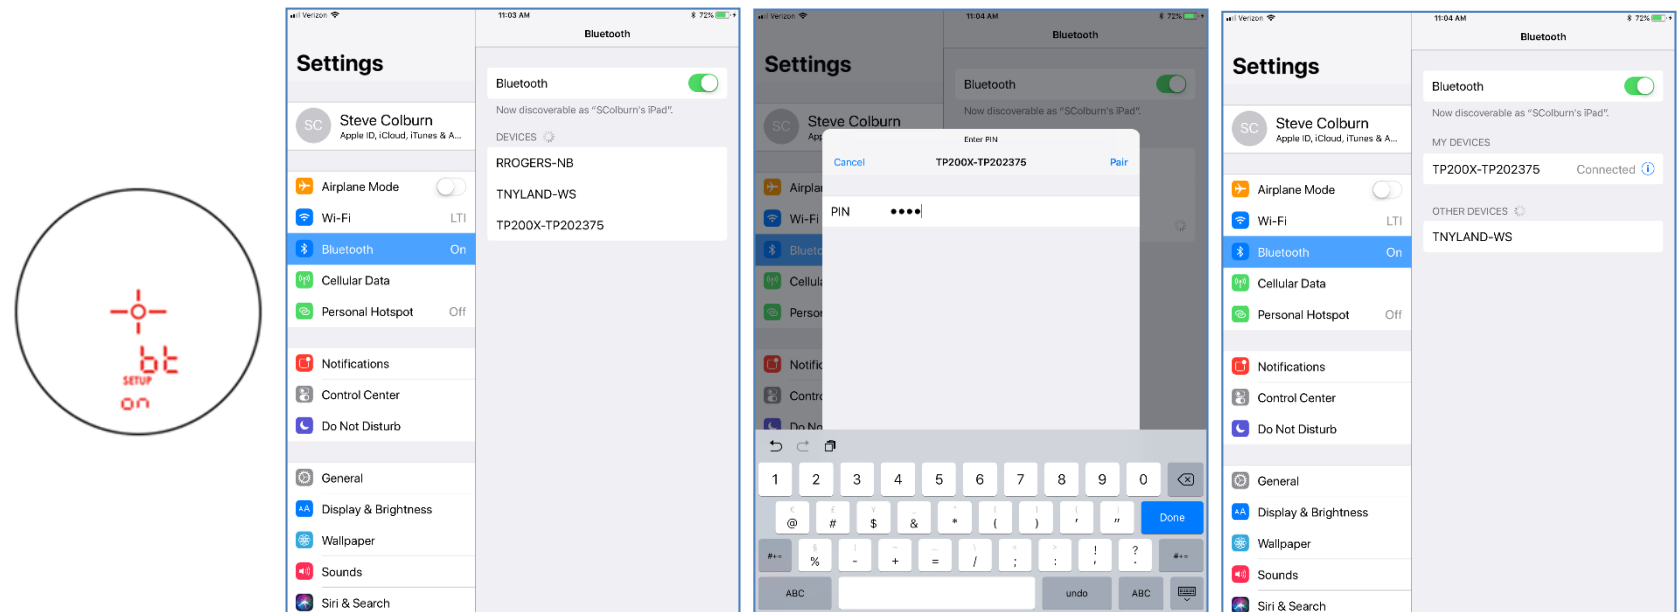

Figure 4
4. Confirm the laser is paired to the device and exit the Settings menu (Figure 4)